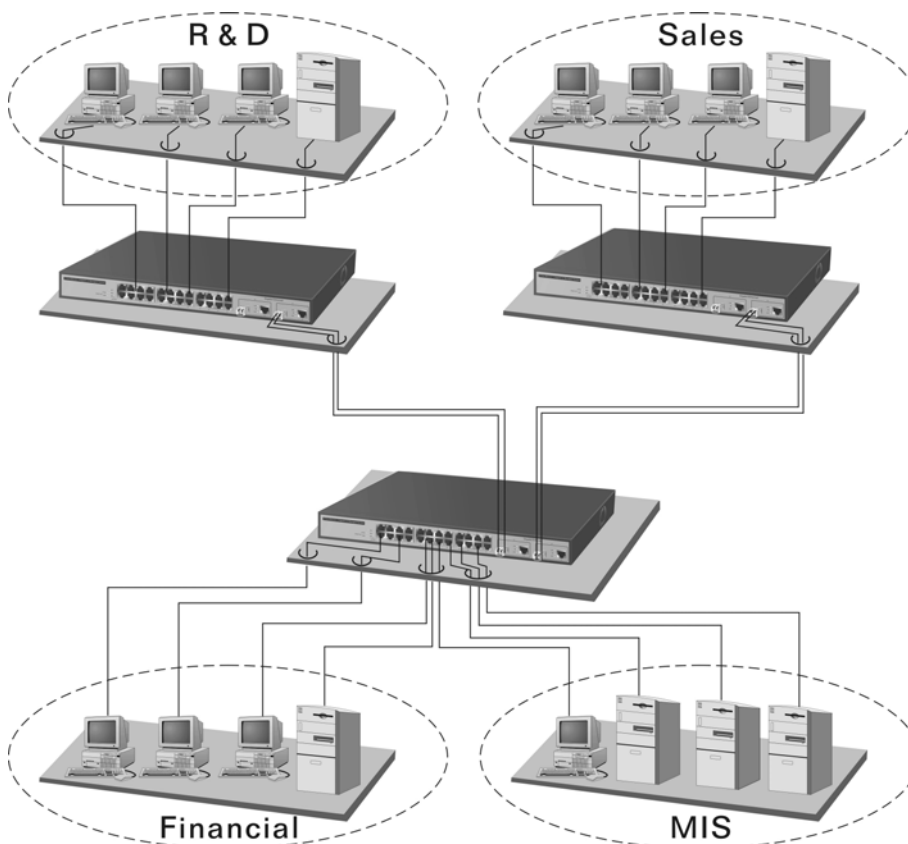

Fig. 2-13 Office Network Connection
- Office network(See Fig. 2-13)